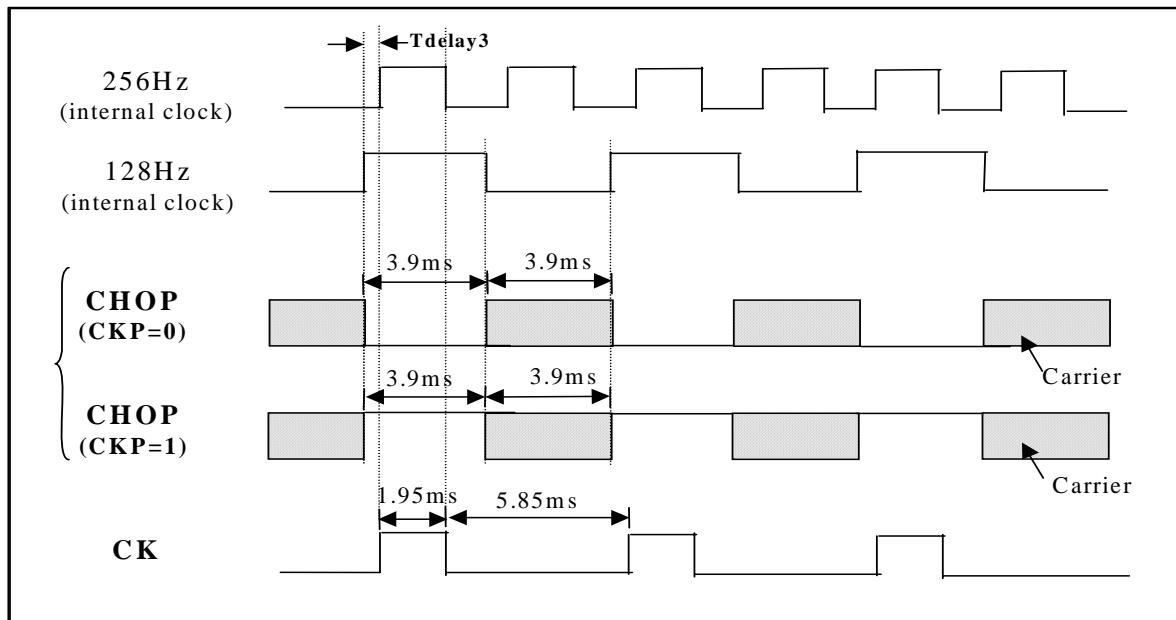

Figure 8-6 EL Generator Timing Diagram
**CKP** bit is used to select clock polarity of CHOP output (see timing diagram in Figure 8-6 for further details).